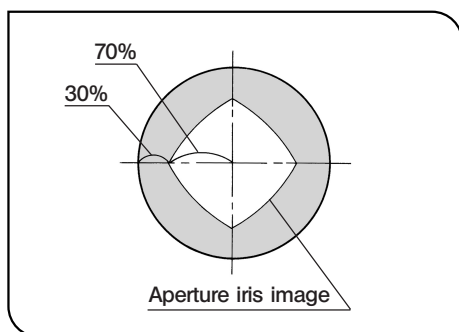

Fig. 11
In general, remove the eyepieces, and then while looking into the eyepiece sleeves, pull out the aperture iris diaphragm lever ② to stop down to 70 to 80% of the numerical aperture of the objective to obtain good images. (Fig. 11)